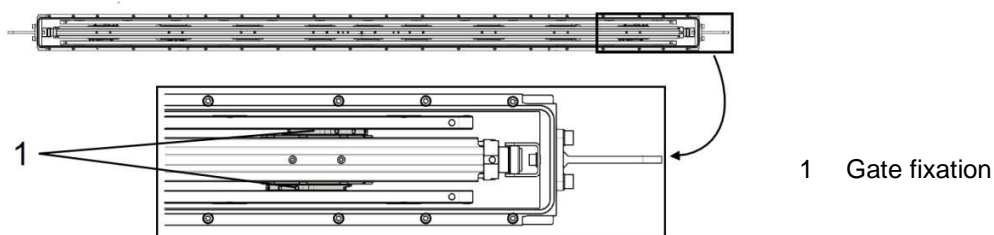

Figure 6-8
9. Turn gate fixation (1) with a screw driver by 90°; see «Figure 6-8» on page 37.